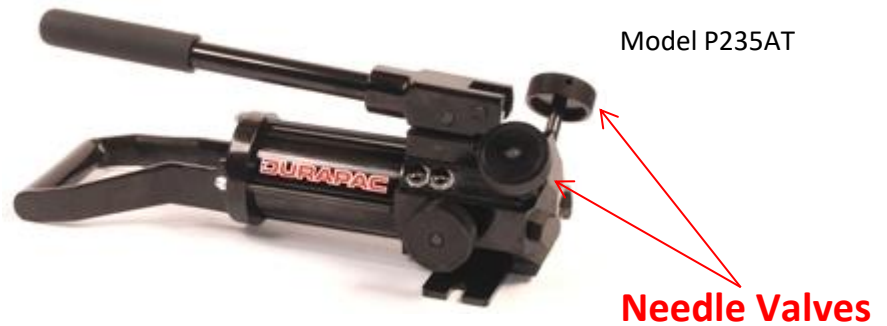

Figure 2 – Needle Valve location for Model P-235AT
5.3.1.1 For Model P-235AT – Open (turning counter-clockwise) or close (turning clockwise) the needle valves (Figure 2) to operate one or two single acting hydraulic tools.